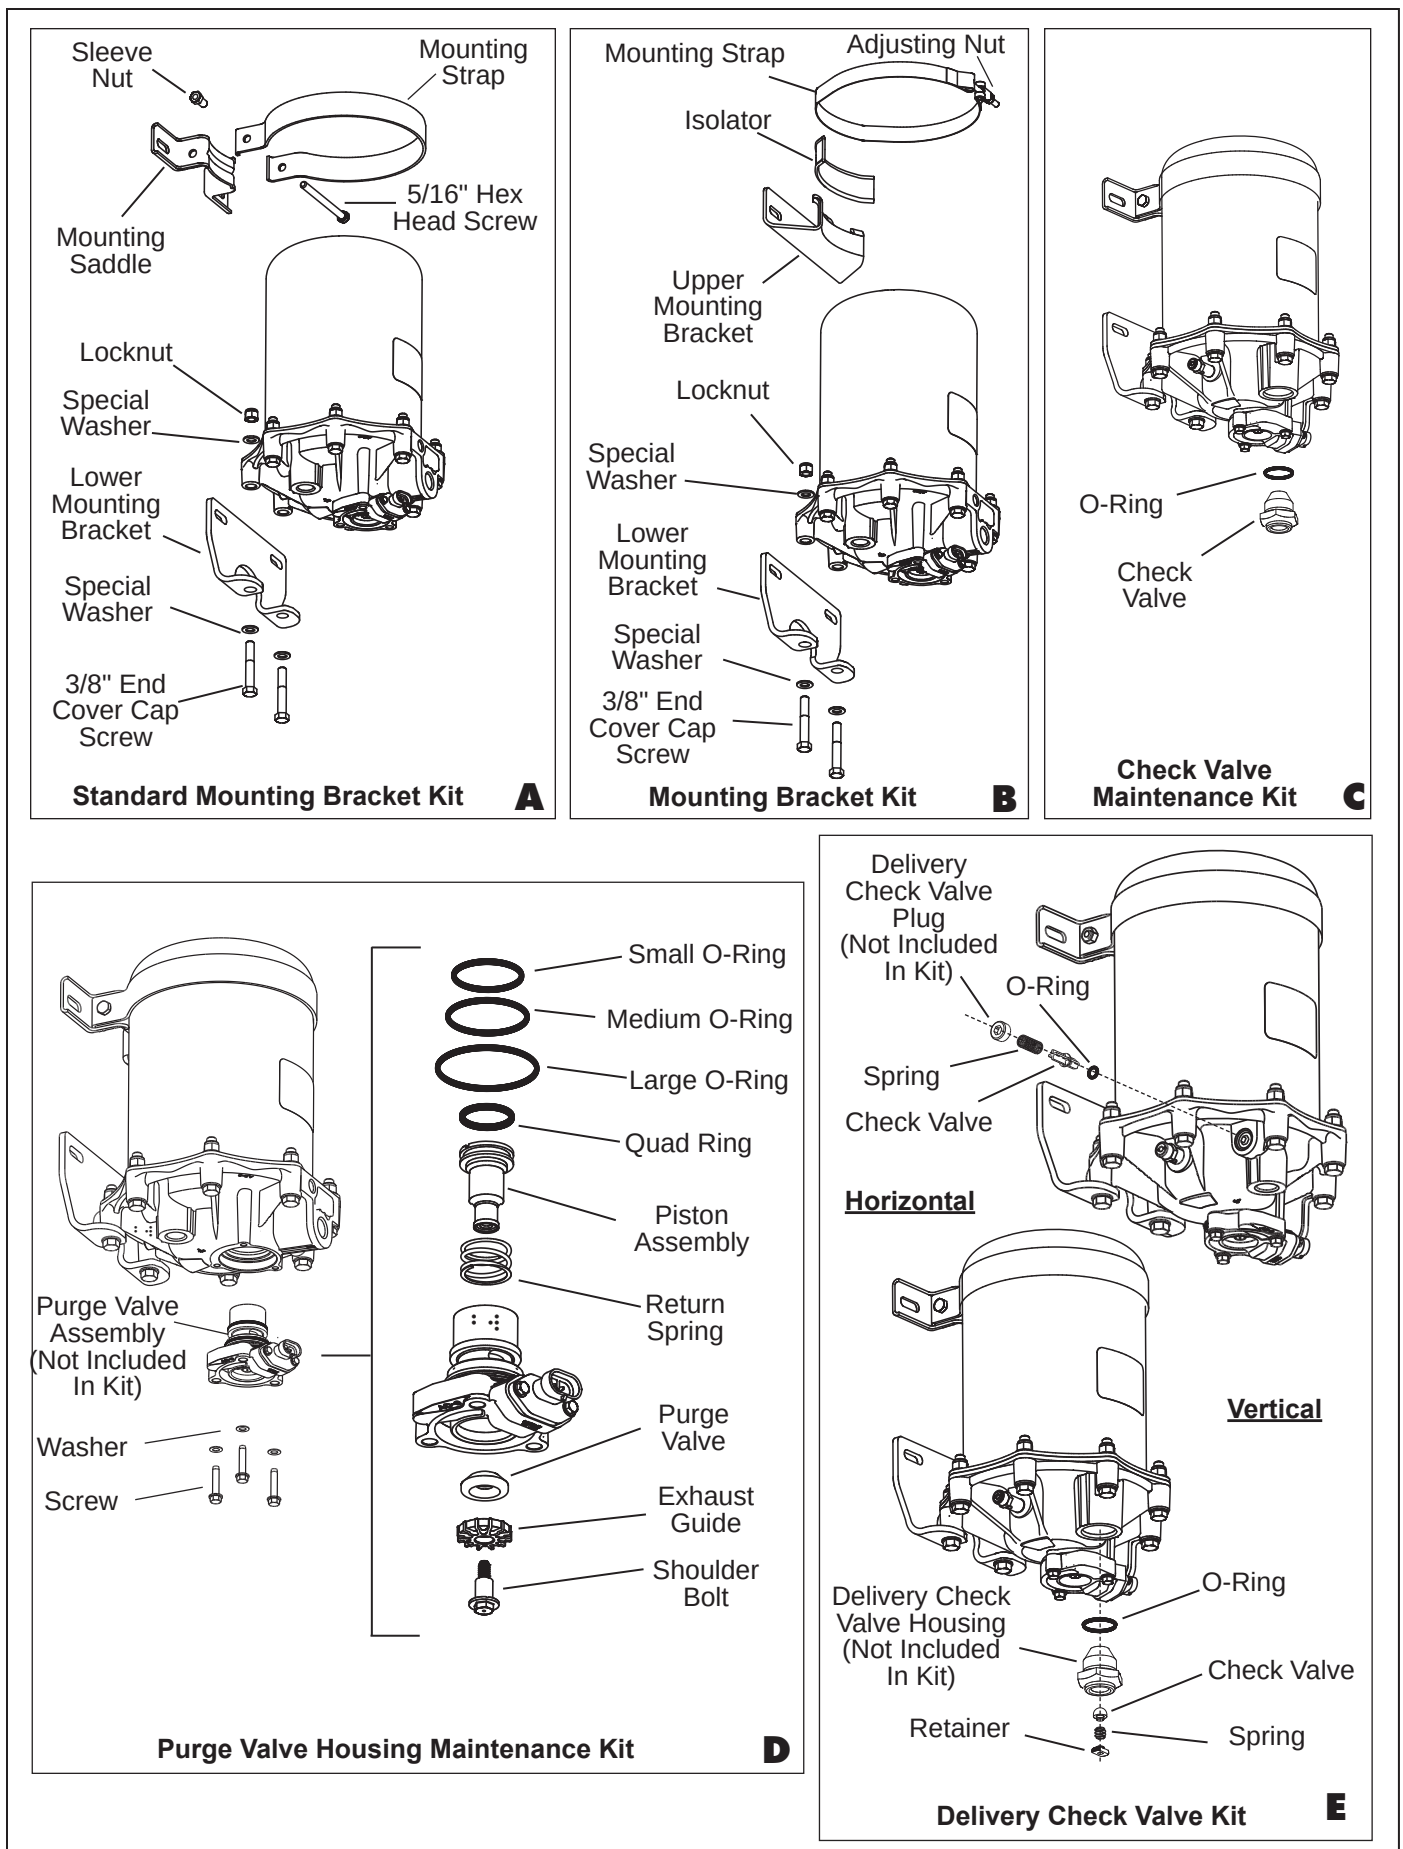

Figure 7 – Maintenance Kit Contents (Illustrations A Through E)
5. Loosen the 5/16" hex cap screw and sleeve nut securing the upper mounting strap to the upper mounting bracket. *See Figure 7, illustration A.*
Some air dryers may contain a one piece upper mounting strap as shown in Figure 7, illustration B. If this type of strap is present, loosen the adjustment locknut and remove the strap and isolator from the upper bracket.
6. Mark and remove the two 3/8" end cover cap screws, locknuts, and four special washers that secure the lower mounting bracket to the end cover. Also be sure to mark these two holes of the end cover. (These bolts are longer than the other 6 bolts.) Retain the mounting hardware. *See Figure 7, illustrations A & B.*
The following disassembly procedure is presented for reference purposes and presupposes that a major rebuild of the Bendix® AD-9® or AD-9® PG (with PuraGuard® coalescing filter) air dryer is being undertaken. Several replacement parts and maintenance kits are available which do not require full disassembly. The instructions provided with these parts and kits should be followed in lieu of the instructions presented here. Refer to Figures 7, 8, and 9 during disassembly.
The current style AD-9 air dryer end cover has a horizontal delivery check valve while earlier styles contained a vertical design. Identify the style of AD-9 air dryer end cover and proceed to the appropriate step for removal. See Figure 7, illustration E.
Removal of the piston from the purge valve housing assembly requires a tool to hold the head of the purge piston while unscrewing the purge valve shoulder bolt. Remove the piston from the purge valve housing assembly using a twelve point 1/4" socket to hold the head of the purge valve shoulder bolt. See *Figure 7, illustration D*.
The following assembly procedure is presented for reference purposes and presupposes that a major rebuild of the Bendix® AD-9® or AD-9® PG (with PuraGuard® coalescing filter) air dryer is being undertaken. Several replacement parts and maintenance kits are available which do not require full disassembly. The instructions provided with these parts and kits should be followed in lieu of the instructions presented here. *Refer to Figures 7, 8, and 9 during assembly.*
1. Prior to assembly, coat all o-rings, o-ring grooves, and bores with a generous amount of the lubricant included in the maintenance kit. *See Figure 7, illustration D.*
The current style AD-9 air dryer end cover has a horizontal delivery check valve while earlier styles contained a vertical design. Identify the style of AD-9 air dryer end cover and proceed to the appropriate step for installation. *See Figure 7, illustration E.*
2. See Figure 7, illustrations A and B, to determine the mounting bracket type.